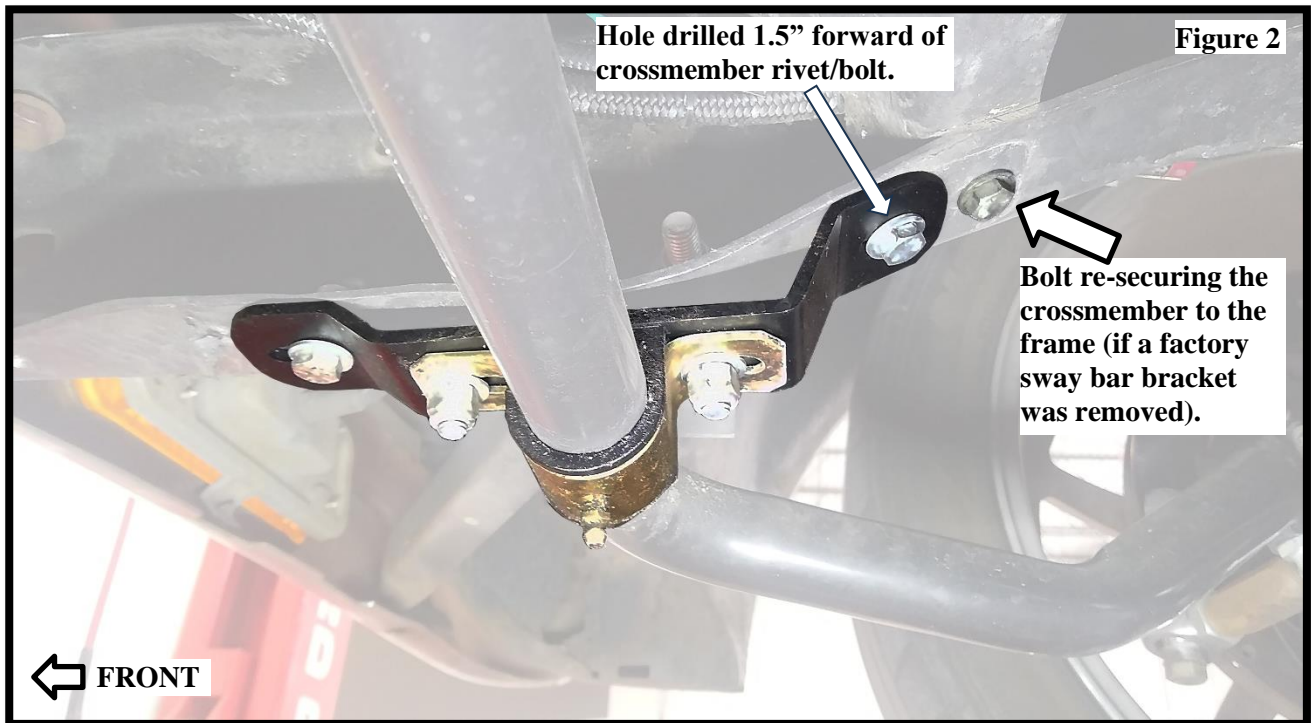

Figure 2
- If a factory sway bar bracket was removed leaving the crossmember mounting hole empty, use a bolt to secure this now empty hole to re-fasten the crossmember connection. **(Figure 2)**
- Install the high-offset side of the QA1 bracket into the hole drilled 1.5" forward of the crossmember hole using the included 3/8" x 1" hardware with two washers and one nyloc nut per connection. **(Figure 2)**